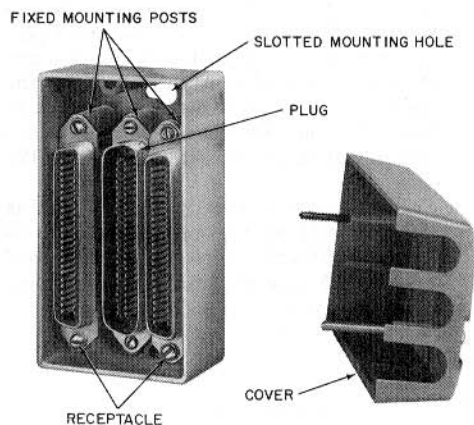
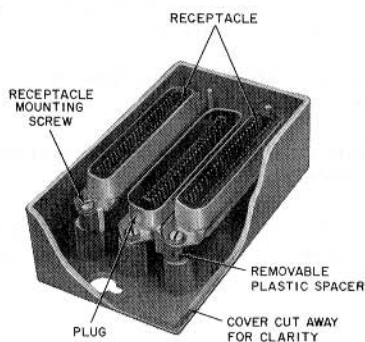
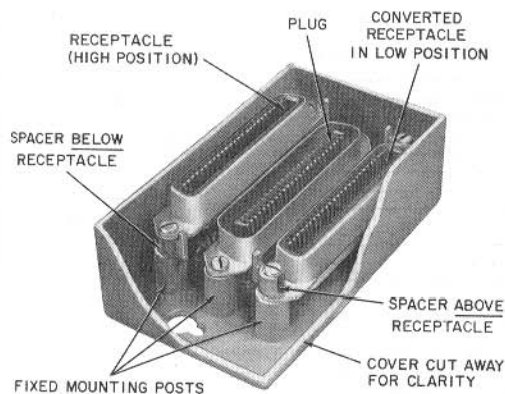

Fig. 16—KS-19252 Bridging Adapter, Nonconvertible
Fig. 17—KS-19252, List 1 Adapter Before Conversion (Early Model)
Fig. 19—KS-19252, List 1 Adapter After Conversion (Early Model)
sets (Fig. 17). It can be converted for use with an A25B and B25A connector cable plus a plug-ended set by pulling two inserts and storing. Normally, in early models, the receptacles were positioned high enough to handle low-hood KS-16689,L1 plugs furnished on cords of telephone sets (Fig. 16 and 17).
- (1) Loosen receptacle mounting screws sufficiently to permit slipout of the two C-shaped plastic spacers (Fig. 17 and 18) which support the receptacle in base.
- (2) Remove spacers. Receptacle can then be depressed to its lowest mounting position to receive the B25A connector cable plug.
- (3) Place removed spacers on top of the receptacle end tabs (Fig. 19) and tighten receptacle mounting screws.